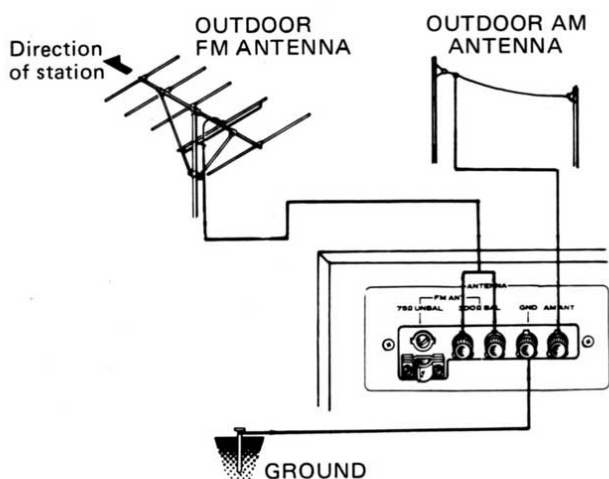

Fig. 3
- Connect the feeder wire from the antenna to the FM ANTENNA terminals on the Receiver (Figs. 3, 4)
- For an outdoor AM antenna, use trees, etc., to suspend the vinyl-sheathed wire as shown in Fig. 3.
It is advisable, both on the grounds of safety and the elimination of interference, to install an ground wire as shown in Fig. 3 wherever possible.